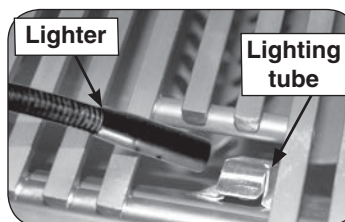

Fig. 27-2 Manual lighting via lighting tube
2. Insert either a burning long-barrel butane lighter or a burning long-stem match through the cooking grid opening to the top of the lighting tube (see Fig. 27-2). For backburners or infrared burners, hold the flame against the surface of the backburner/infrared burner. For sideburners, hold the flame against the burner.